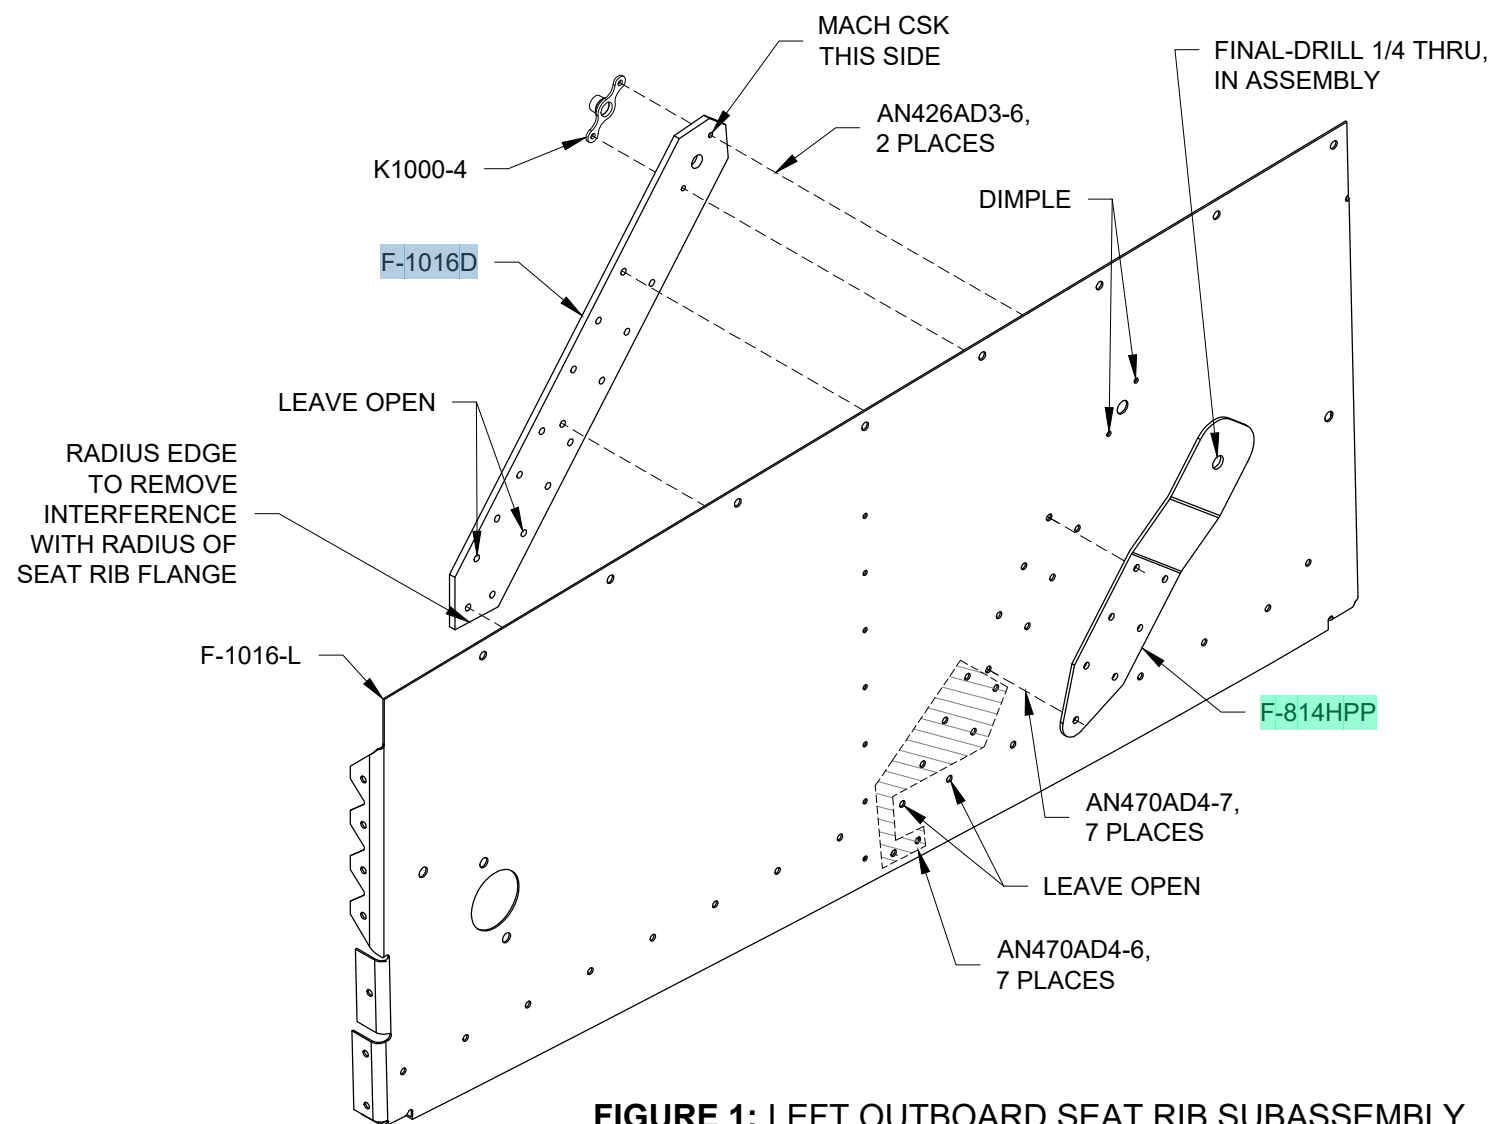

FIGURE 1: LEFT OUTBOARD SEAT RIB SUBASSEMBLY
Rivet the K1000-4 nutplates in place per the callouts in Figure 1. Cleco the rest of the parts together per Step 2 and Step 4 to form the Left and Right Outboard Seat Rib Subassemblies.
Step 9: Rivet the F-1016D Seat Belt Attach Bar, and F-814HPP Fwd Seat Belt Anchor to the F-1016-L Outboard Seat Rib per the call-outs in Figure 1 (leave the holes open where indicated).